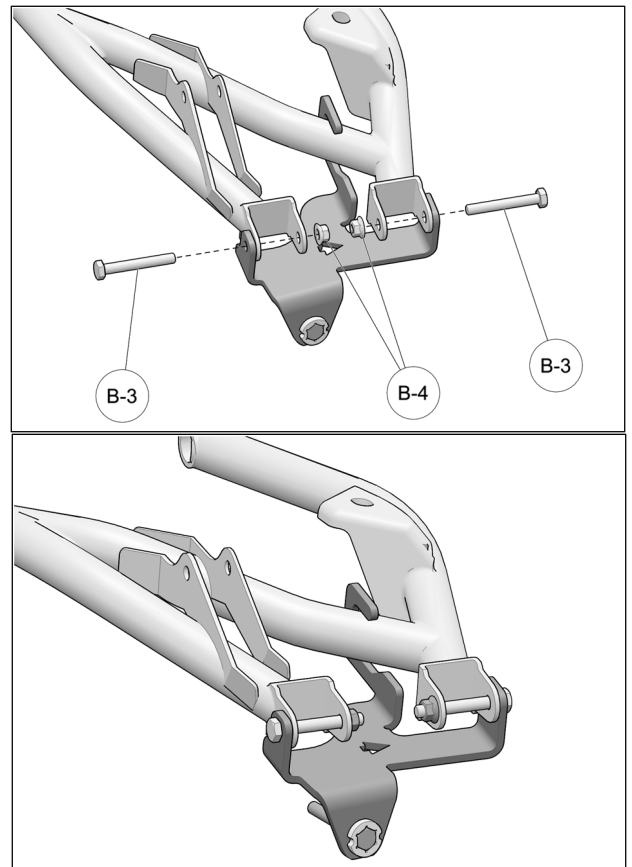

Fig. 8
8. Insert the new M10x75mm bolts (**B-3**) in the anchor bracket, through the lower suspension arm and wheel hub. Secure assembly using the new M10 nuts (**B-4**) provided. Tighten bolts to 70 N•m [52 lb•ft]. See Fig. 8